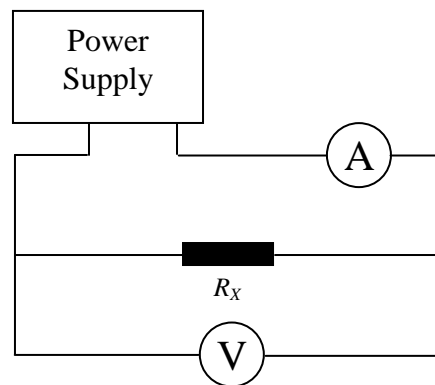
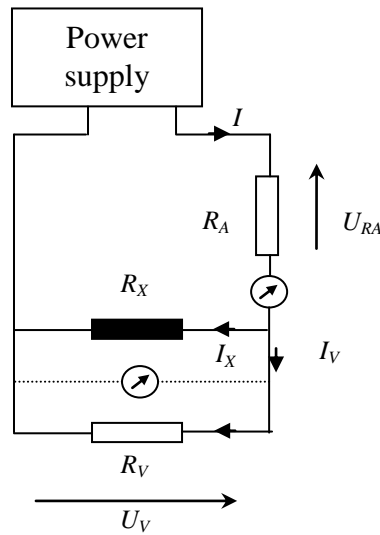

Fig. 1. The setup used for measurement of relationship between current flowing through the item R_x and voltage
Fig.2. Diagram 1 with extracted resistances of the voltmeter and the ammeter.
If one takes into consideration internal resistances of the meters used in the diagram shown in fig. 1., one will obtain a diagram shown in fig. 2. Once the power supply is switched on, the current flowing through the ammeter will be split into two branches. One contains the analyzed resistor and the second one - the voltmeter.
For a measured R_x resistance of the order of magnitude of $1 \text{ k}\Omega$ the condition $R_x \ll R_V$ is fulfilled “better” than the condition $R_x \gg R_A$ and in this case we apply the circuit shown in fig. 1.
- 2.1 Connect the circuit according to the diagram shown in fig. 1. Make sure that terminals of the measurement devices marked with “+” sign are connected to the power supply terminal of a higher potential.
- a. *Connect the circuit according to the diagram shown in fig. 1, connection the diode in this way so that it is polarized in forward direction. (Connect the red terminal of the diode with positive terminal of the power supply).*